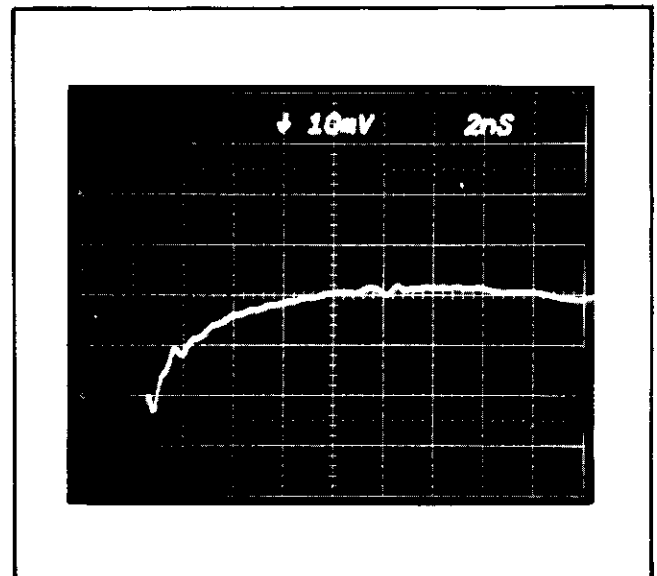

Fig. 3-3. Typical sampling oscilloscope system response curve obtained when C940 has been properly adjusted (step 11i).
l. When the proper vertical alignment has been made for the negative-going FAST RISE OUTPUT signal, adjust C940 so that the response curve is aligned with the reference graph as close as possible. A slight amount of front-corner overshoot relative to the graph is desirable. See Fig. 3-3. Do not expect to obtain the same aberration amplitudes as the reference graph. In no case should the displayed signal aberrations deviate from the reference graph by more than 1 vertical division.